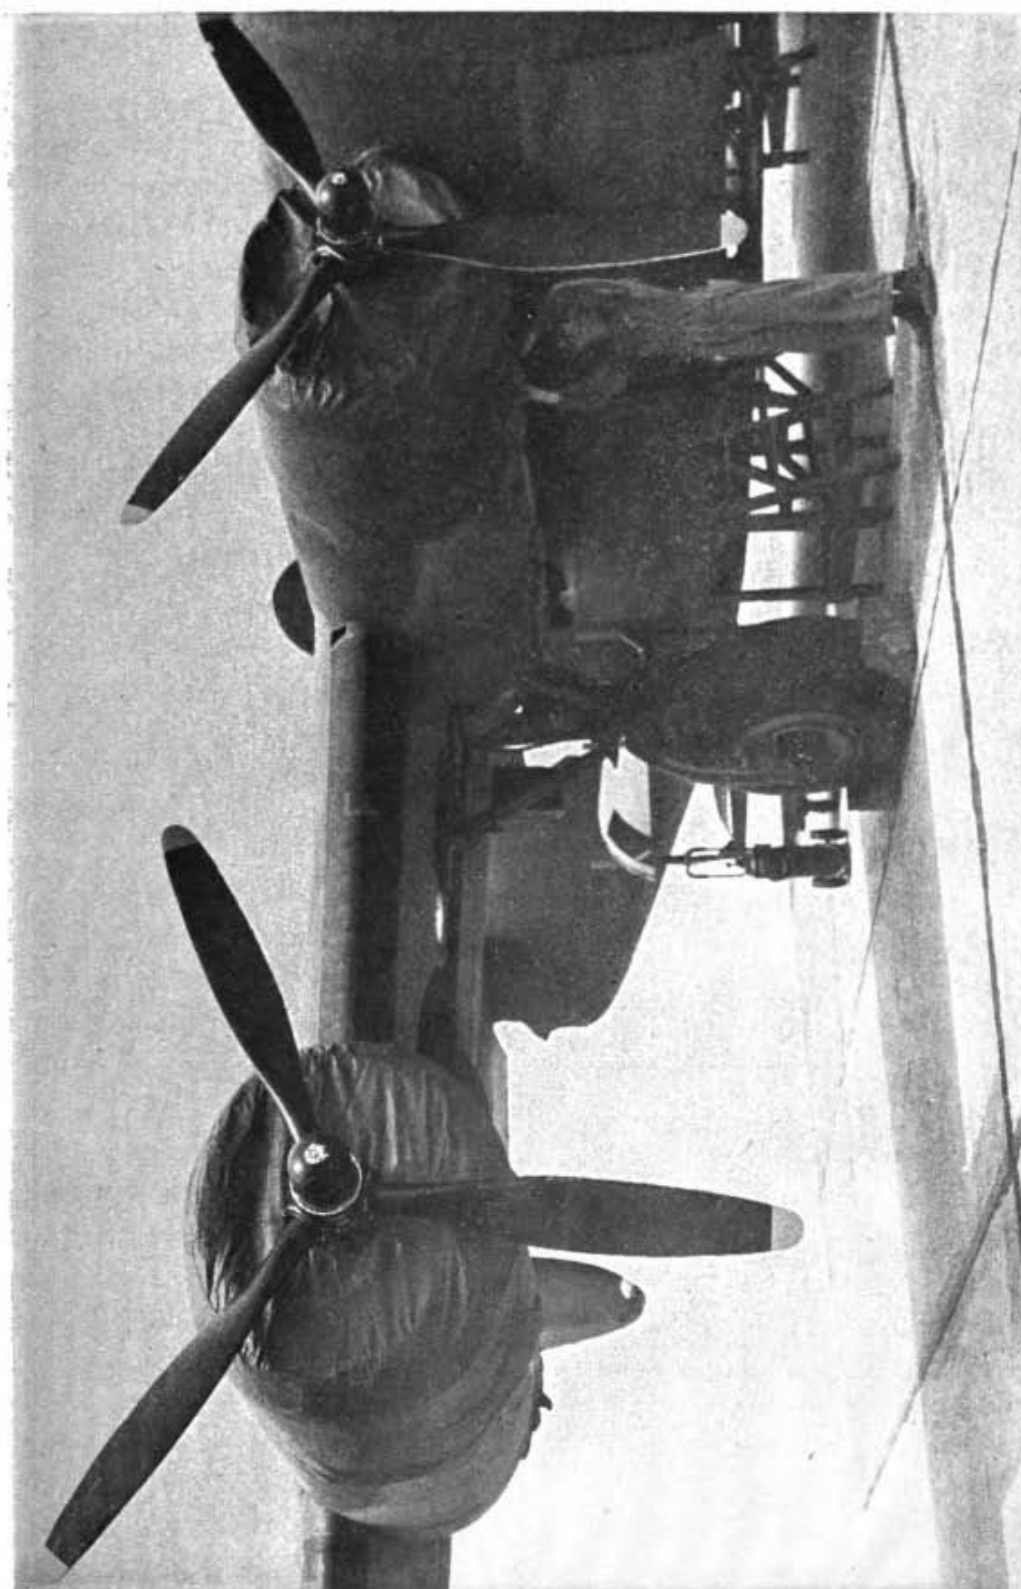

Figure 33. Protective engine canvas hood.
(10) PREHEATING COOLANT. When the temperature falls below -5° to -10° C., the coolant may be drained from a liquid-cooled engine into clean containers and heated. The drain cocks must be left open until just before the coolant is returned to the system.
(11) PROTECTIVE CANVAS ENGINE HOODS. Engine covers (fig. 33) are provided for each engine installation. These close-fitting